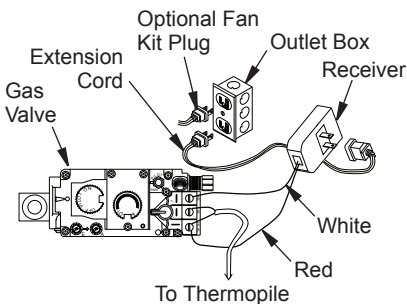

Figure 37 - Installing Remote Receiver (SKYTECH Model)
3. The receiver does not require a battery. To install, plug extension cord into one of the outlet receptacles on the outlet box. Plug receiver unit into extension cord and the ignition module into receiver unit (see Figure 37).